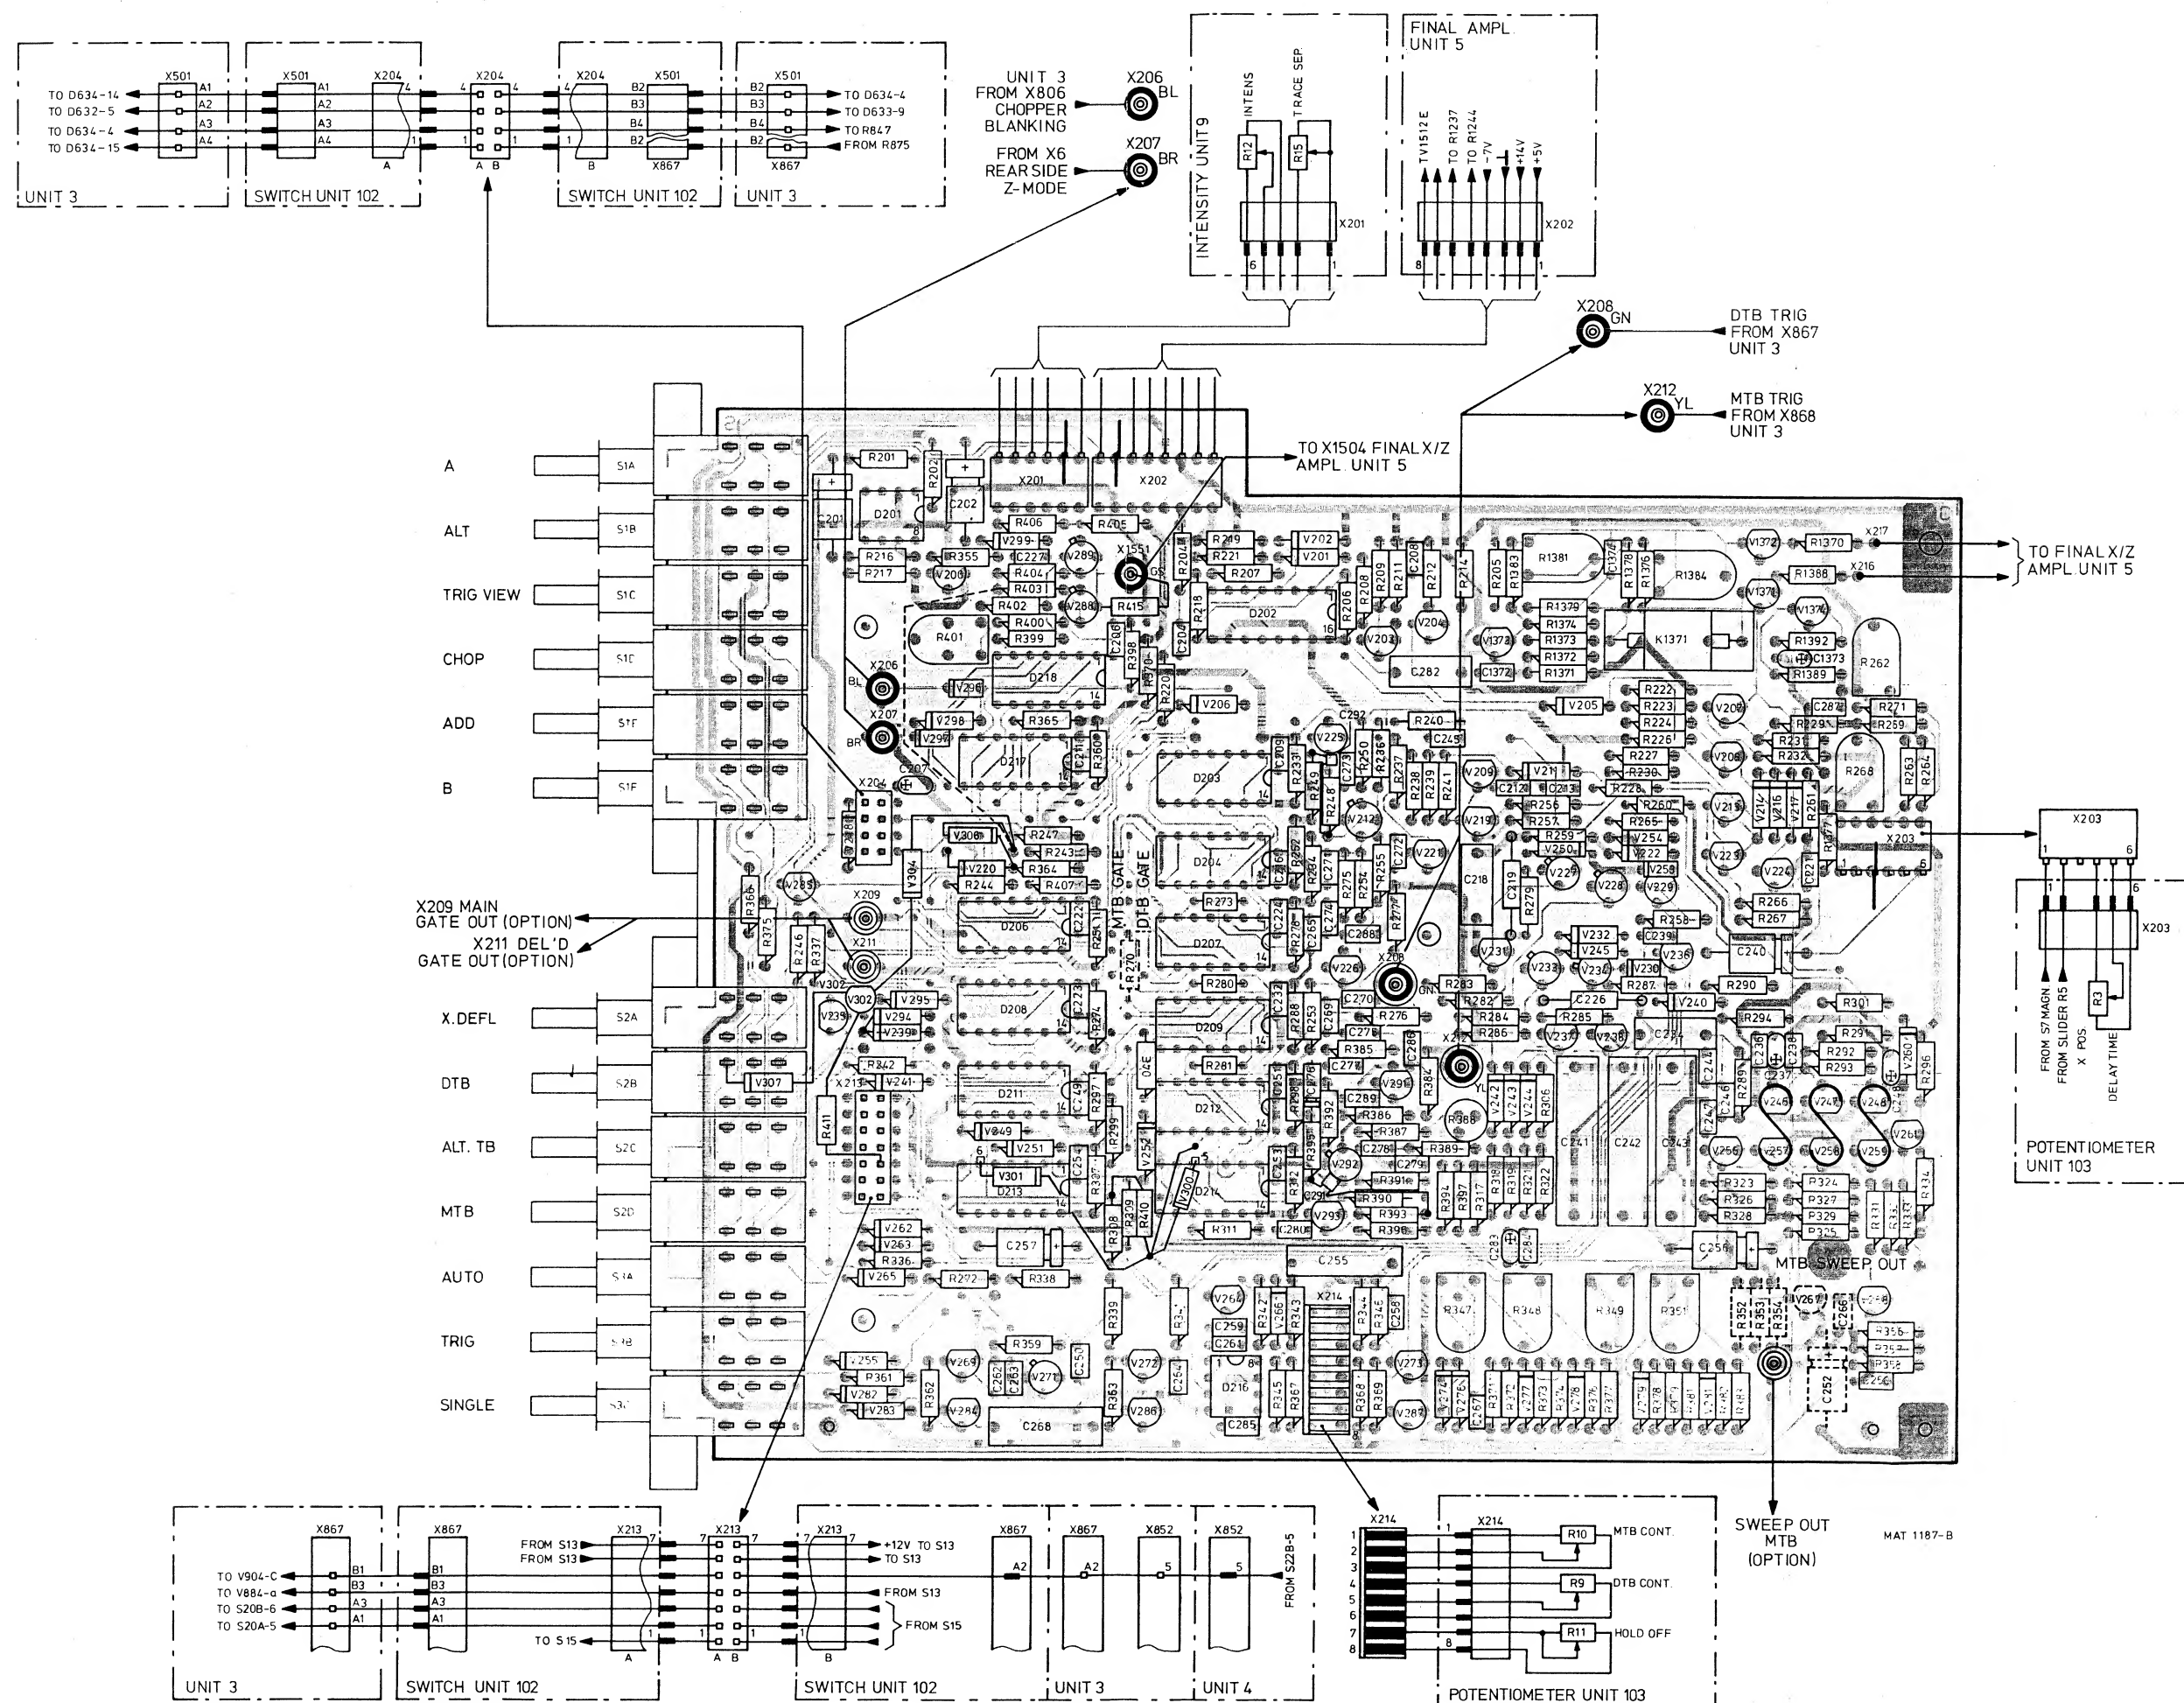

Fig. 1. Time base unit, p.c.b. lay out.
- Unit 2: time base unit (see fig. 1).